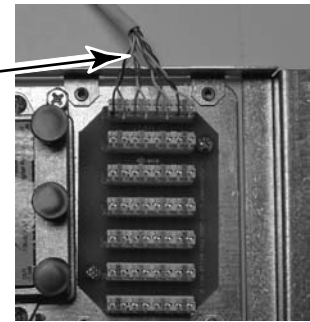

Figure 2
2. Connect the incoming telephone service to the rear of the distribution plate by "punching down" the individual pairs of wire into their color matching slots. The best way to do this is with an Impact tool. Start with the White/Blue wire and then the Blue wire. (when terminating, the white with colored stripe wire goes in the first slot and the solid color wire goes in the second slot). Be sure that all wires have been pushed into the slot and are making contact with the metal teeth. If the wires are not pushed in far enough, the metal teeth will not penetrate the PVC jacket. See Figure 2.